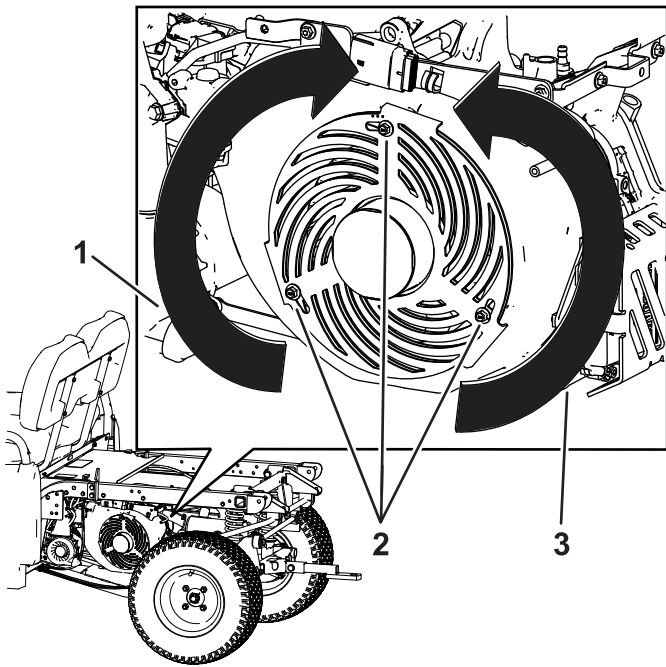

Figure 15
1. Loosen the 3 screws on the blower screen (Figure 15).
2. To close the blower screen, rotate it clockwise. To open the blower screen, turn it counterclockwise (Figure 15).